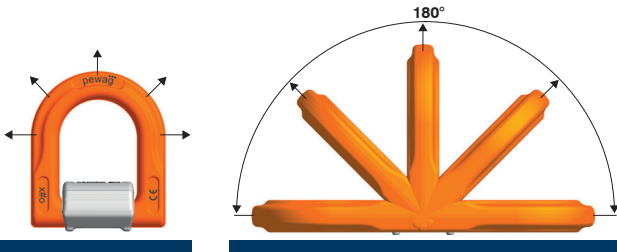

Fig. 1: Permissible pull directions that occur when used correctly.
- Loading must always take place in the stated direction (fig. 1 under section 2 of this manual), with the maximum load capacity according to table 1 and taking into consideration the operating conditions stated in section 2.
Load: Loading must always take place in the stated direction (fig. 1) with the maximum load capacity according to table 1 and taking into consideration the operating conditions as specified here.
- The pull direction is not in the specified area acc. to fig. 1.